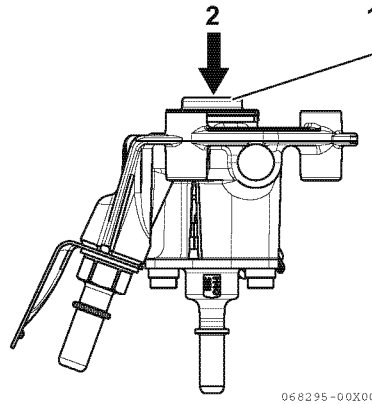

Fig.25-53
- 3 - Attach the new sealing plate (1, Fig.25-53) to the sealing surface, and push it in the direction of the arrow (2, Fig.25-53). Be careful not to damage the sealing plate. Do not reuse the sealing plate.